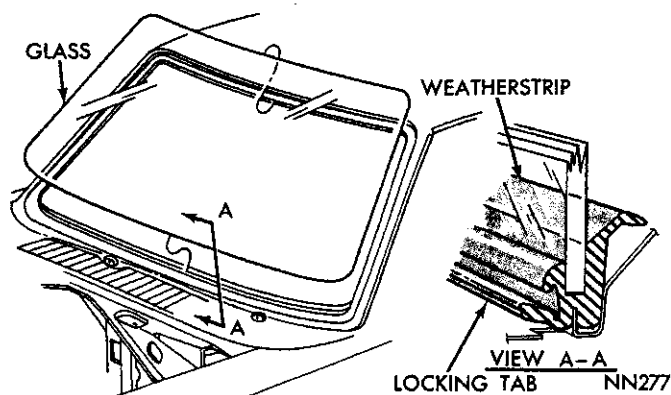

Fig. 4—Windshield Installation
- (4) Unlock weatherstrip (Figs. 4 and 5) by prying lip of weatherstrip apart, inserting a fibre wedge, and with a slight twist to wedge, unlock by moving wedge
(3) Apply a 3/8 inch bead of sealer cement completely across cowl top panel lower windshield frame area (Fig. 4).
(4) Position weatherstrip lower section to tab area, starting at corners install over tabs and work toward center.
(5) Install weatherstrip on fence at sides and upper opening. With hand pressure, seat weatherstrip fully on fence.
(6) With an assistant, slide upper edge of glass into channel of weatherstrip and using a fibre tool, force weatherstrip lip over glass completely around.
(7) Seat glass in weatherstrip, pounding glass, with palm of hand using an upward motion.
(8) Insert a fibre tool between weatherstrip and glass, at either corner, slide tool across top, and completely around weatherstrip to seat glass in place.
(9) Using a fibre tool and working across top, down